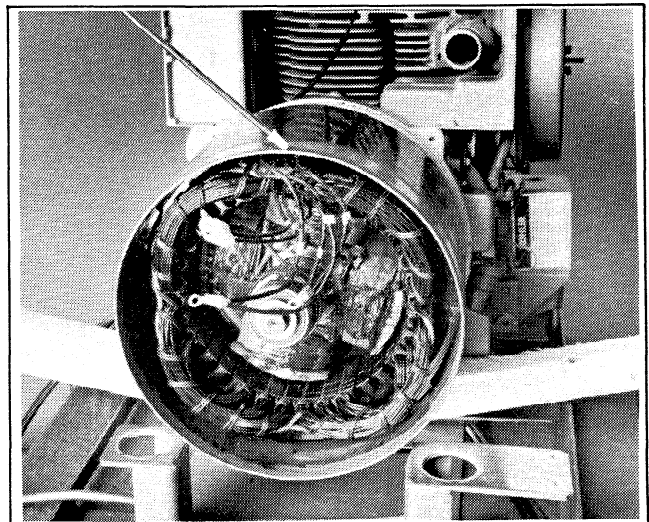

Figure 6-16. Stator
14. The stator (Figure 6-16) can be tested at this time (Paragraph 6-7). Remove the stator by guiding it to the rear.